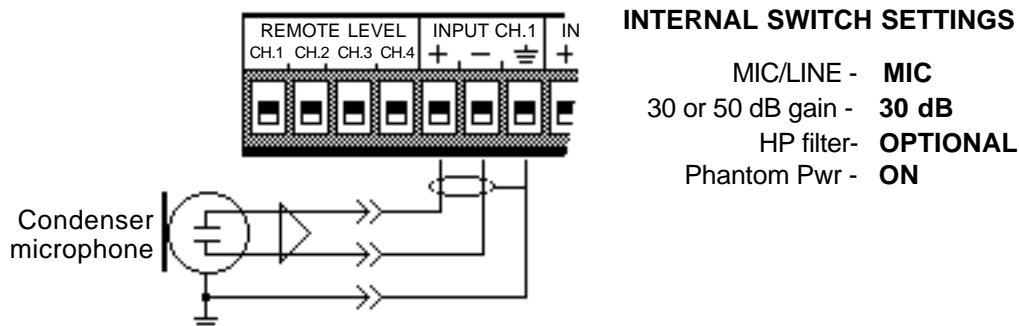

Figure 4
*switch should be set to the 30dB position.* The setting of the High Pass Filter is optional. The Phantom Power Switch should be set to the ON position. A typical connection is shown in Figure 4 following: